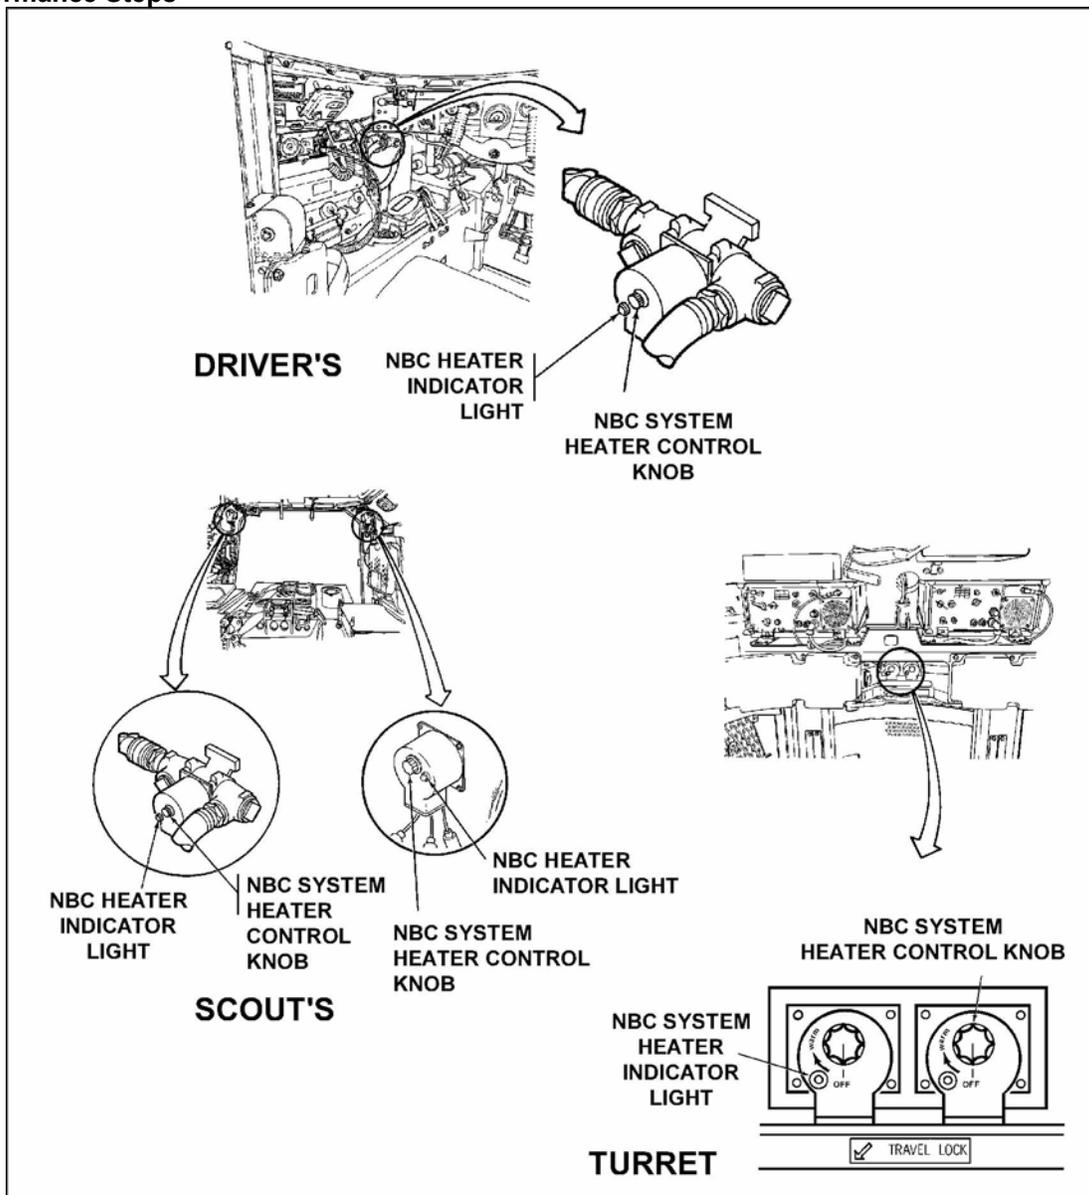

Figure 4. NBC heater.
- 3. Check the air outlet and NBC heater (Figure 4).